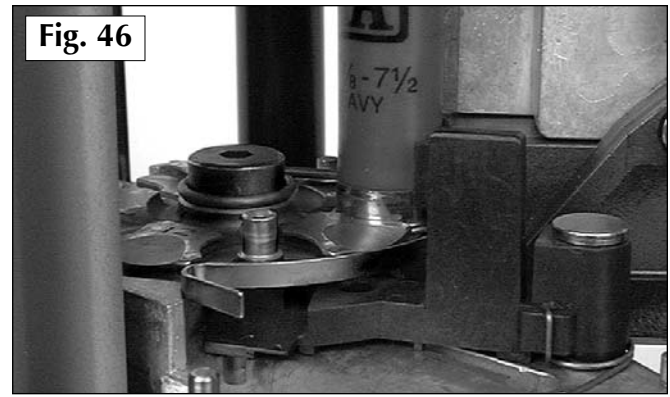

Fig. 46
2. Push the roller handle (#22183) aft, away from you. Doing so inserts the hull fully into the shellplate and the first primer appears at station two. Remove this primer and set it aside. **Fig. 46**